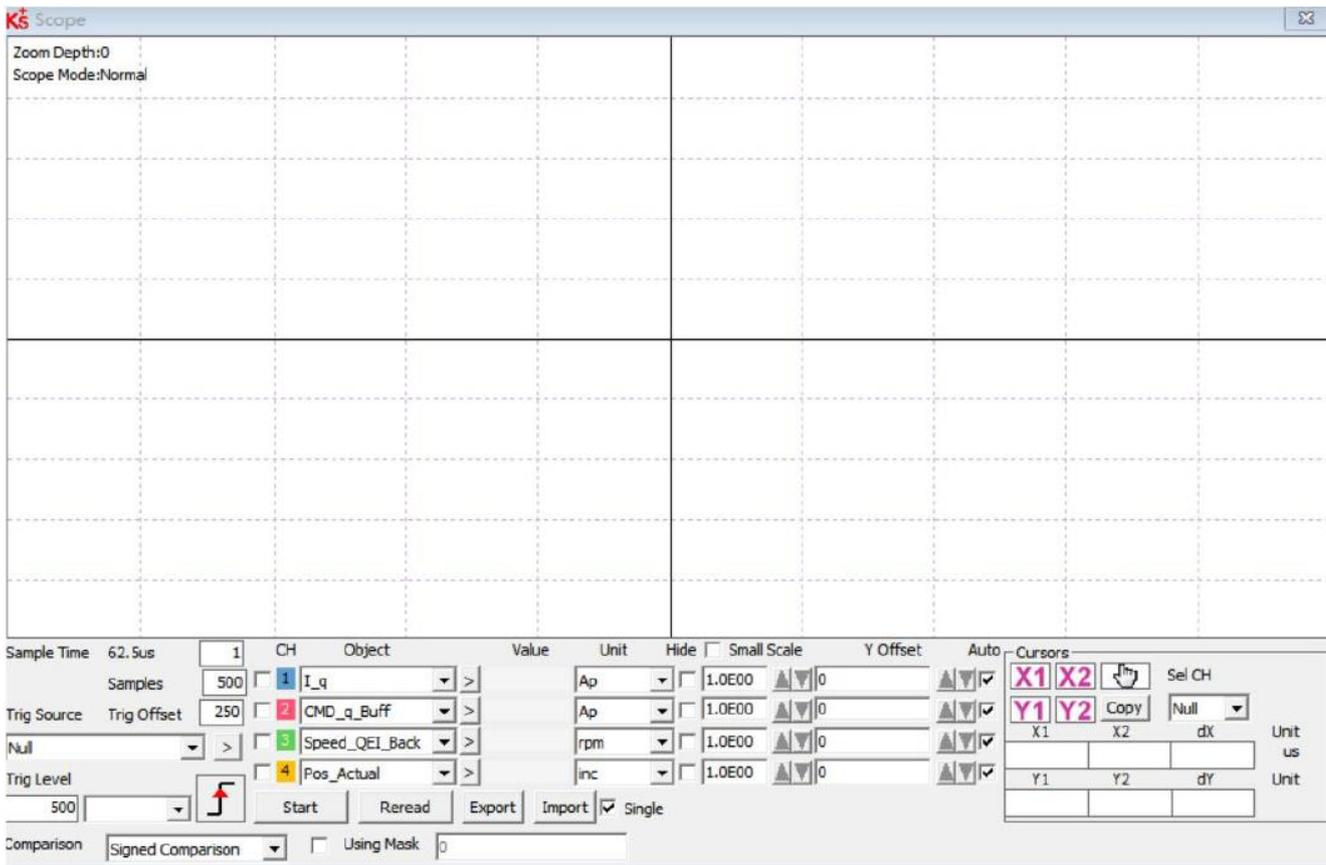

Figure 3-11 Scope Window
**Trig Source and Trig Level:** The trigger condition is set in Figure 3-11 to start collecting data when the effective target current q rises to 100DEC, DEC is an internal unit, which can be switched to a current un